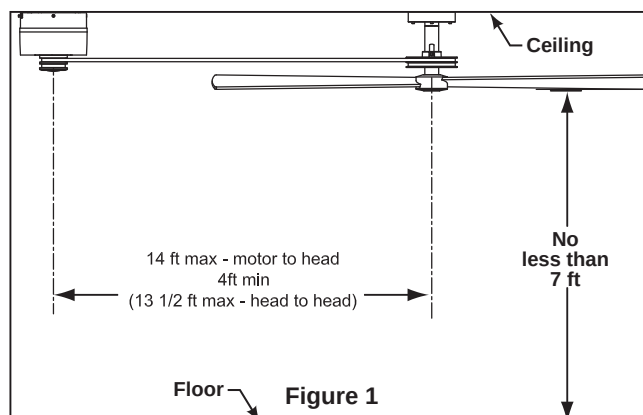

Figure 1
The fan must be hung with at least 7' of clearance from floor to blades. (Figure 1)
1. Remove the four screws from the pulley assembly mounting cover by using the supplied allen wrench. Retain the screws for reinstallation in Step 4. (Figure 1)